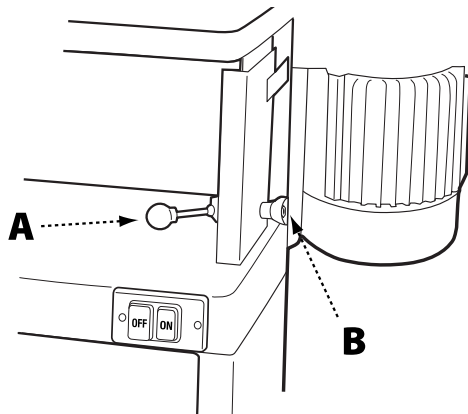

FIGURE 9
1. Loosen the platen locking lever (A) and rotate the platen into the horizontal (flat) position. Do not lock.
2. Adjust tension on the eccentric block by tightening the nylon nut (B) with a 14mm wrench. See Figure 9. Turn the nut in 1/4-turn increments and test locking handle for proper tension.